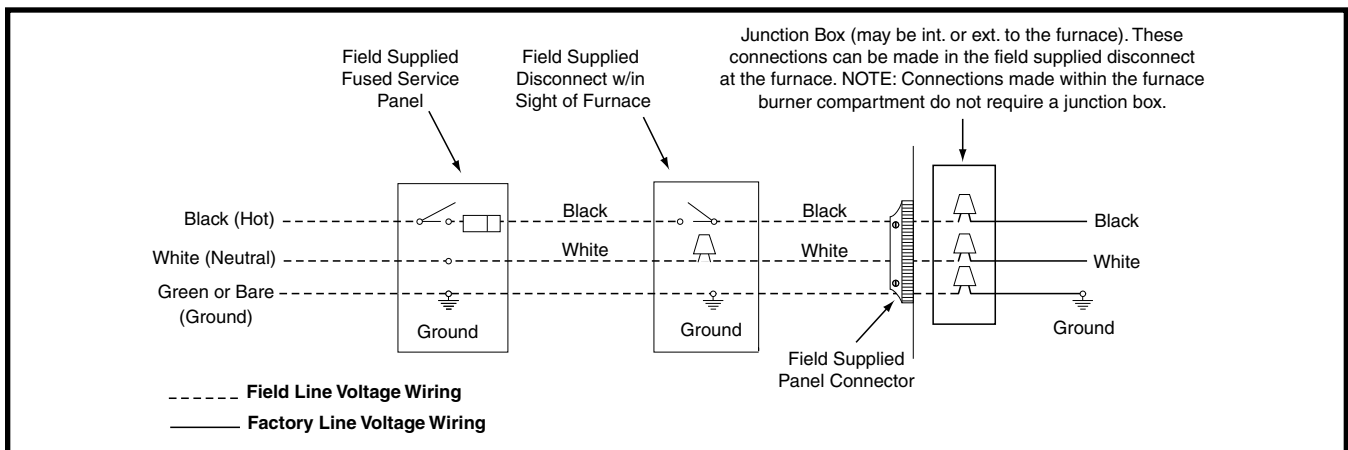

Figure 21. Line Voltage Field Wiring
- An electrical disconnect must be installed readily accessible from and located within sight of the furnace. See Figure 21 \(page 25\) or the wiring diagram label inside of the control door. Any other wiring methods must be acceptable to authority having jurisdiction.
- Proper line voltage polarity must be maintained in order for the control system to operate correctly. Verify the incoming neutral line is connected to the white wire and the incoming HOT line is connected to the black wire. The furnace will not operate unless the polarity and ground are properly connected as shown in Figure 21.